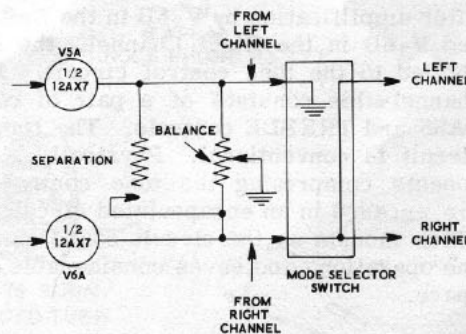

Figure 2D
**MONO RIGHT position:** See Figure 2D. In this position any input to the Right Channel may be fed simultaneously to both the Right and Left Channel outputs.